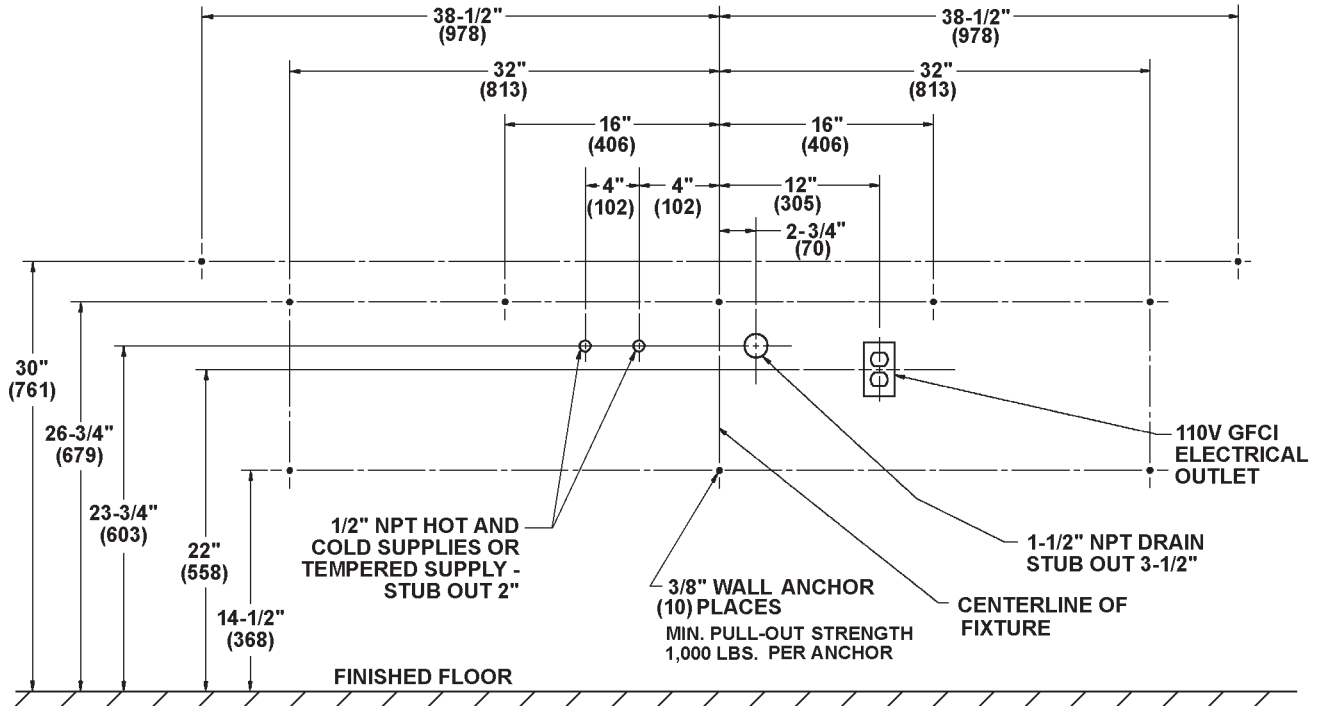

Figure 1a
- ⚠ IMPORTANT:** Dimensions shown in Figure 1 are for Juvenile Height (grades Pre-K thru 5 or 6) and in Figure 1A for Juvenile Height (grades 6 thru 8 or 9)